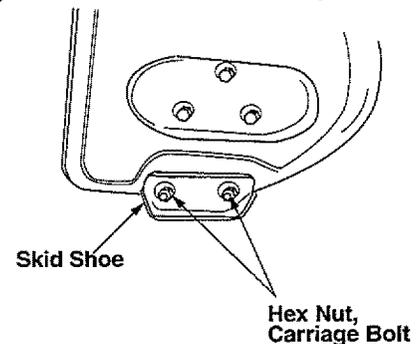

Figure 14
- Adjust the skid shoes by loosening the four hex nuts and carriage bolts and moving skid shoes to desired position. Make certain the entire bottom surface of skid shoe is against the ground to avoid uneven wear on the skid shoes. See Figure 14.